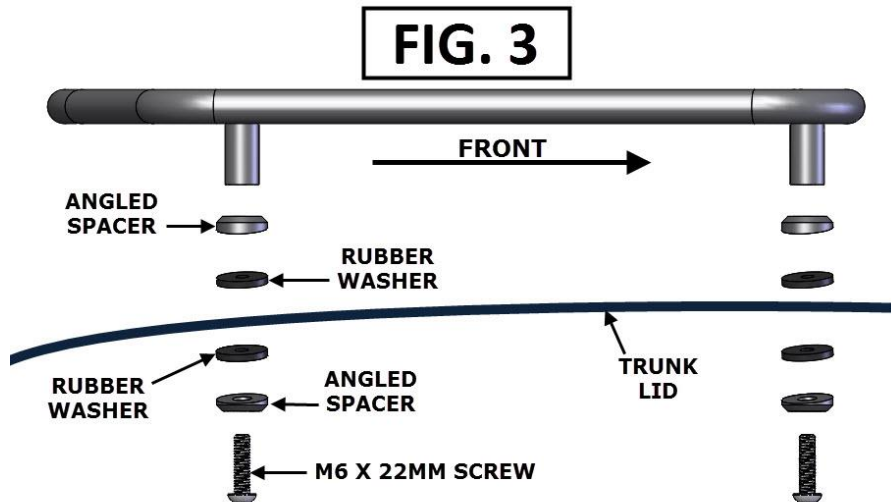

FIG. 3
5. LOOSELY ASSEMBLE THE RACK TO THE TRUNK LID USING FIG. 3.